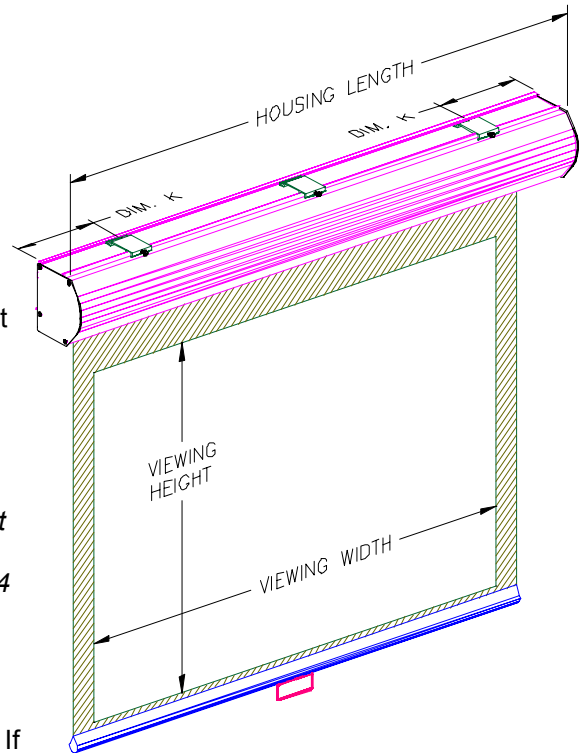

Figure 3
- The Housing Length (Figure 3) is as follow: